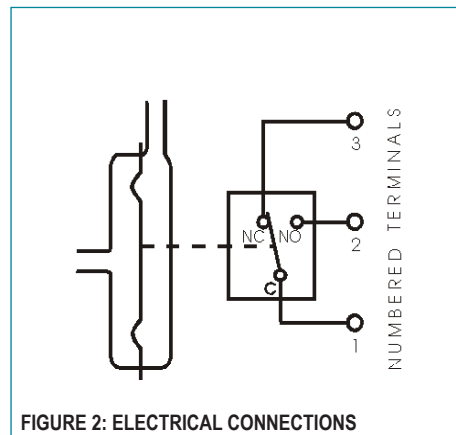

FIGURE 2: ELECTRICAL CONNECTIONS
Three (3) terminals are provided for field wiring. Before pressure is applied to the diaphragm, the switch contacts will be in the normally closed position as shown in Figure 2.